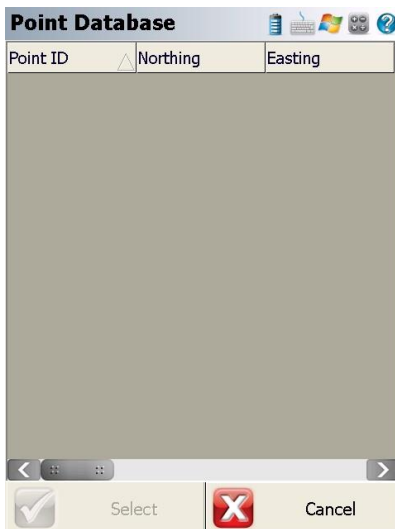

Figure 43: Select QuickStart Point
8. On the **Point Database** screen (refer to Figure 43), select a point ID from an existing project and click **Select** to initiate a quick start.